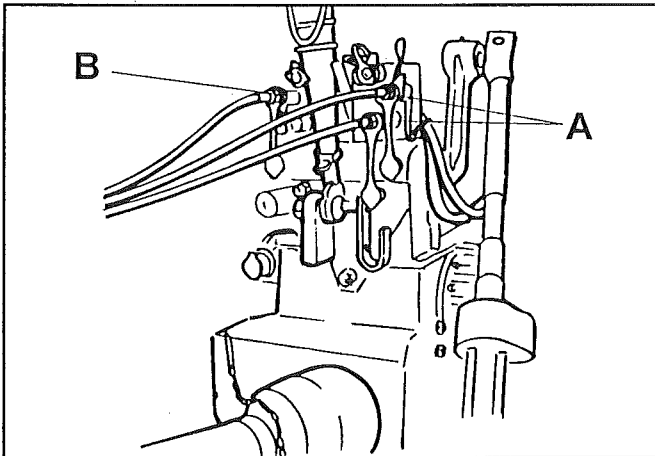

Fig. 3
- FIG. 3** The hydraulic hoses for the drawbar cylinder are connected to the double-acting take-out **A** and the wheel cylinders to a single-acting take-out **B** on the tractor.